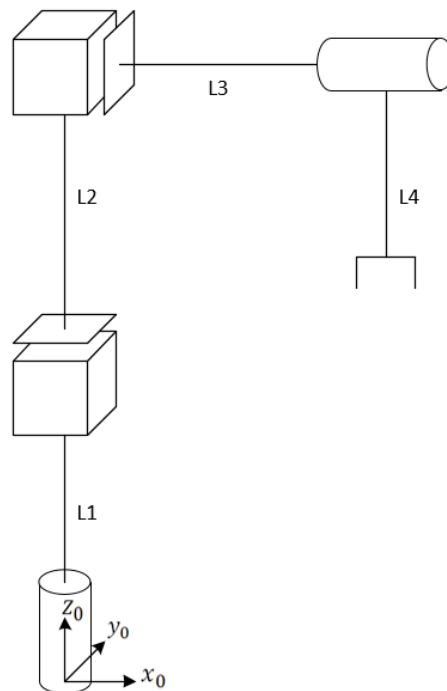

Figure 1: Robot
Figure 1 shows the robot configuration that is being used. In the initial position, shown in Figure 1, the rotational joint is rotating about the Z_0 axis, the first prismatic joint moves along the Z_0 axis and the second prismatic joint moves perpendicular to the Z_0 axis (along X_0), the second rotational joint (joint 4) rotates about an axis parallel to X_0 in this initial position. L_1 , L_2 , L_3 and L_4 are fixed lengths. The first rotational joint is considered to be in the base of the robot with zero position as shown in the figure.
- (10 %) Assign coordinate frames on the robot in Figure 1 using Denavit-Hartenberg convention. Write the Denavit-Hartenberg parameters in a table.